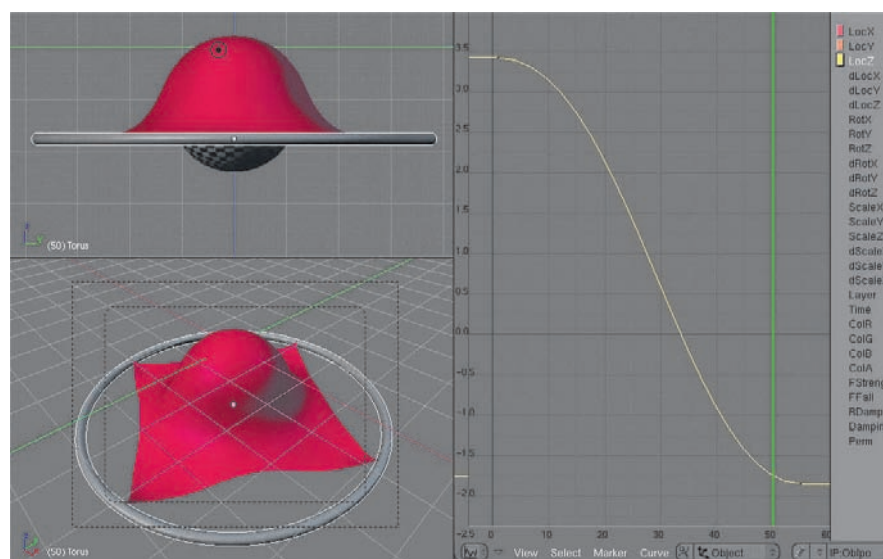

Figure 3.45 Animate the hoop and bake.
4. Animate the Hoop object as shown in Figure 3.45. If the shape of your Ipo curve (that is, the speed of the movement) or the sizes of your objects are different from mine, you might find that there is some penetration of the ball through the plane. This is not uncommon, unfortunately, and it can require some tweaking. In some cases, you might even need to use an invisible collision object as described in the drapes example earlier in this chapter.